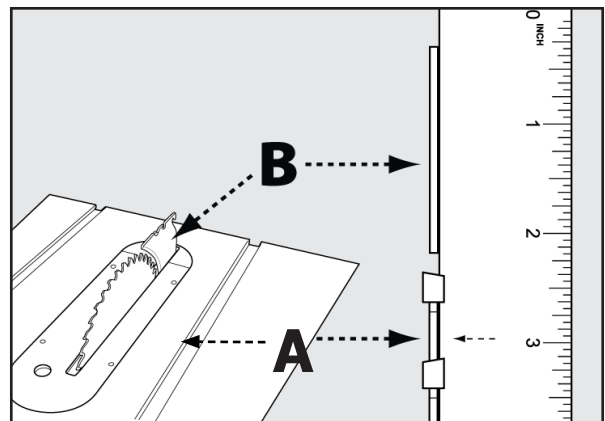

FIGURE 24a
1. Horizontal Alignment: Lay a straight edge on the table against blade face (A) and make sure it extends out along the riving knife (B), as shown in Figure 24a. The riving knife should just touch the straight edge. Be sure the straight edge goes between the teeth and rests on the blade face and the riving knife for proper alignment.